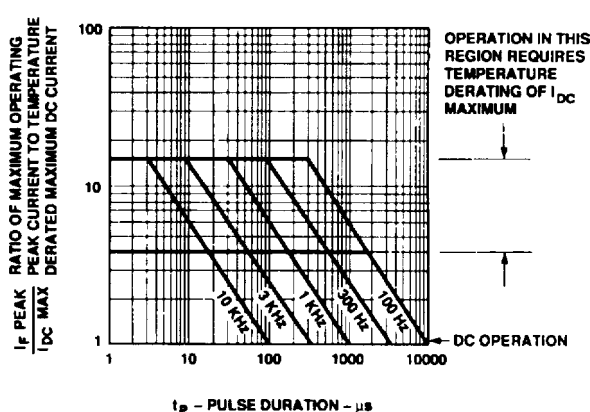

Figure 2. Maximum Allowed Peak Current vs. Pulse Duration - AlGaAs Red.
- 3 See Figure 2 to establish pulsed conditions.